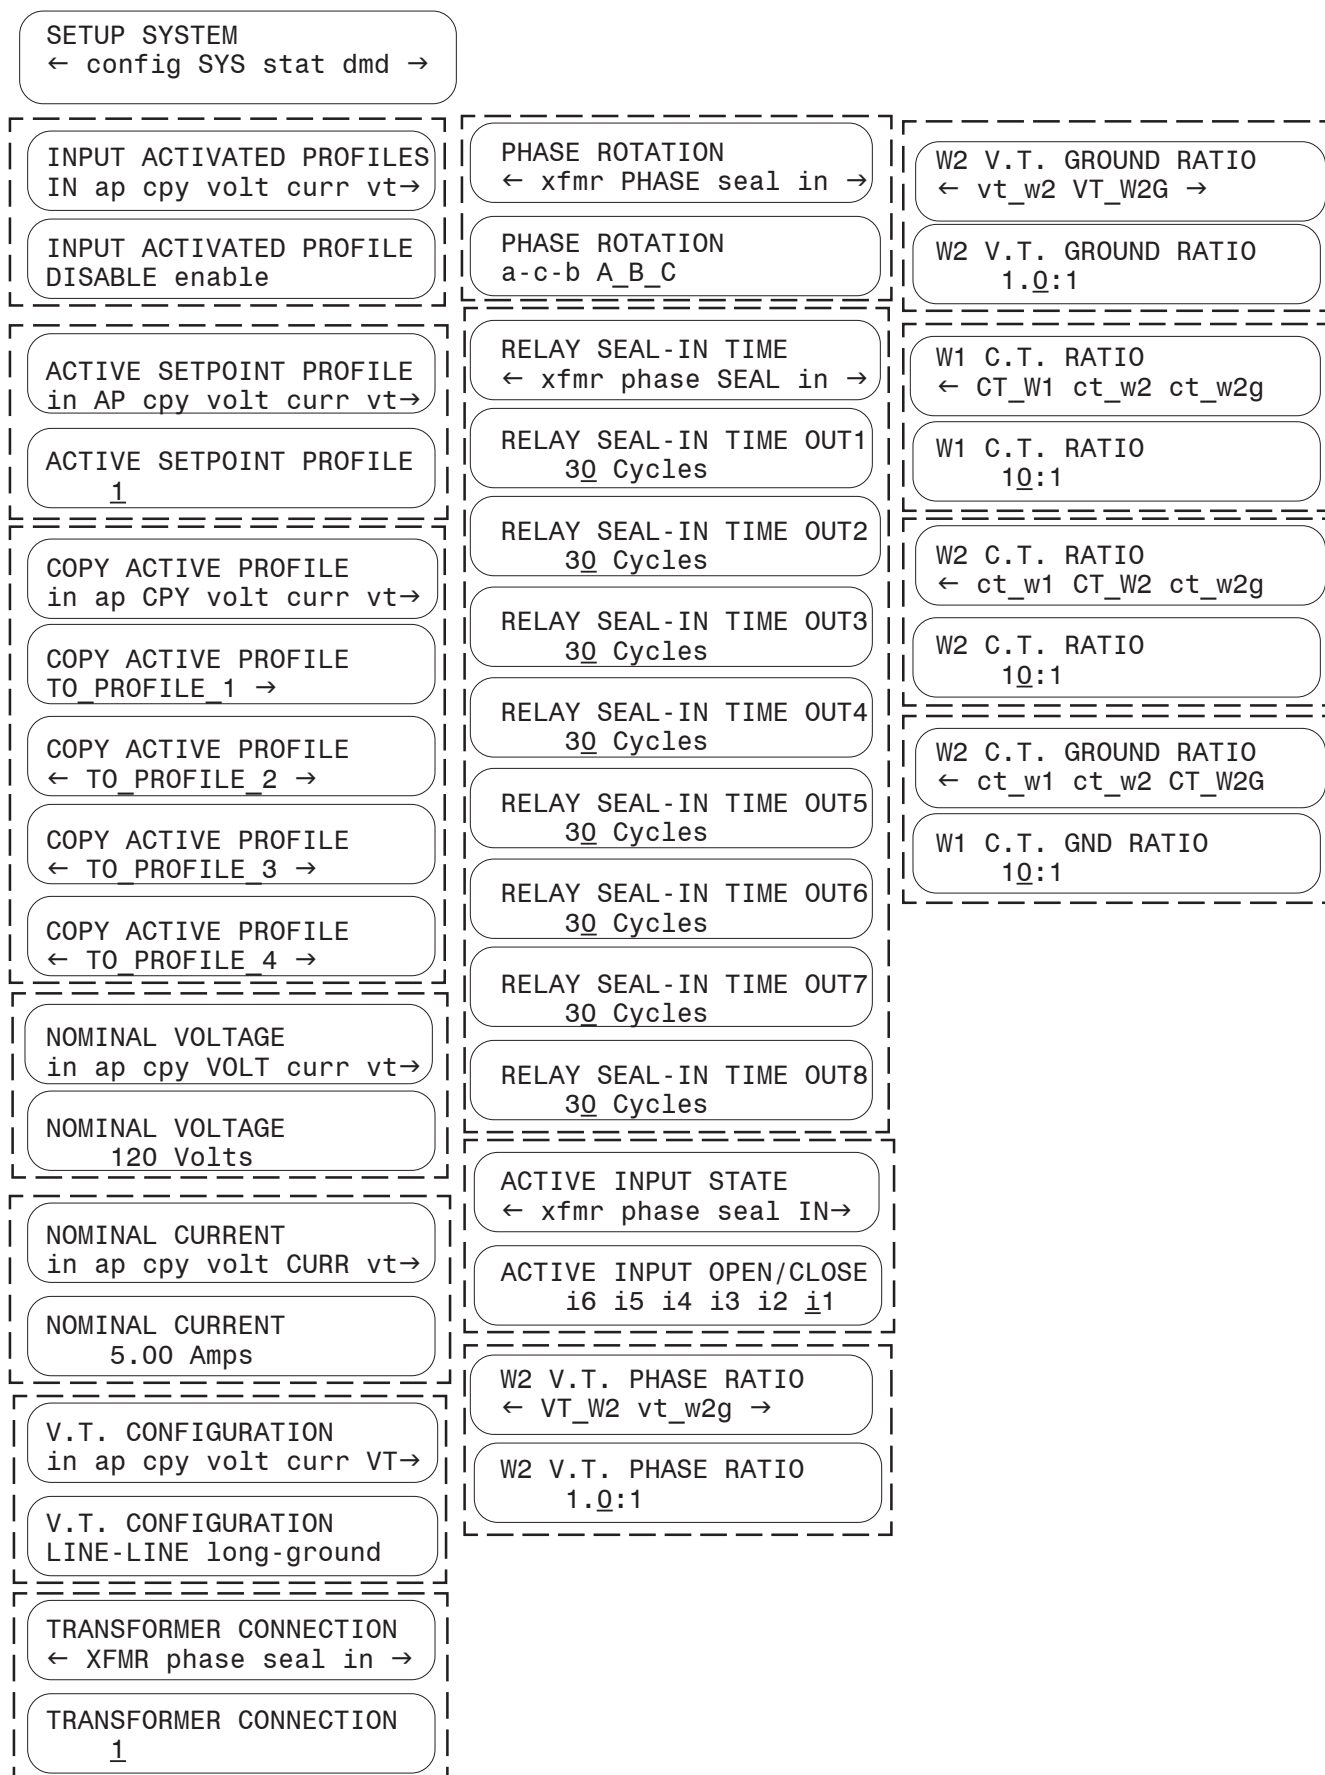

Figure 3-4 Sample of System Setup Menus
7. Finish relay configuration in the **SETUP SYSTEM** menu (see Figure 3-4). This is the general system and equipment information required for the operation of the relay. This includes such items as CT and VT ratios, VT configurations, transformer connections and Nominal values. See Section 3.2, Setup System.
See Figure 3-4 for Sample Settings related to input for this Section. The Active Setpoint Profile screen shows the profile presently selected for operation. This profile number can be altered to manually select a different profile, only if the Input Activated Profiles setpoint is set to **DISABLE**. Other settings are self-explanatory, and are required for proper operation of the relay.